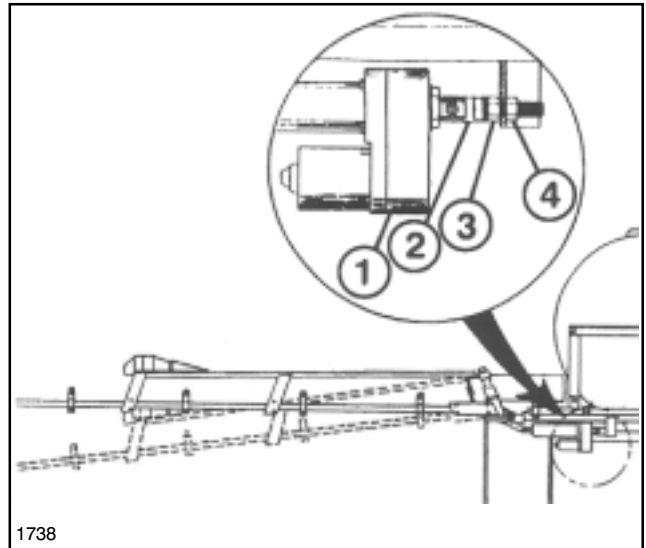

FIG. 24
1. Tighten the adjustable clevis jam nut as close against the clevis as far as it will go. See FIG. 24.